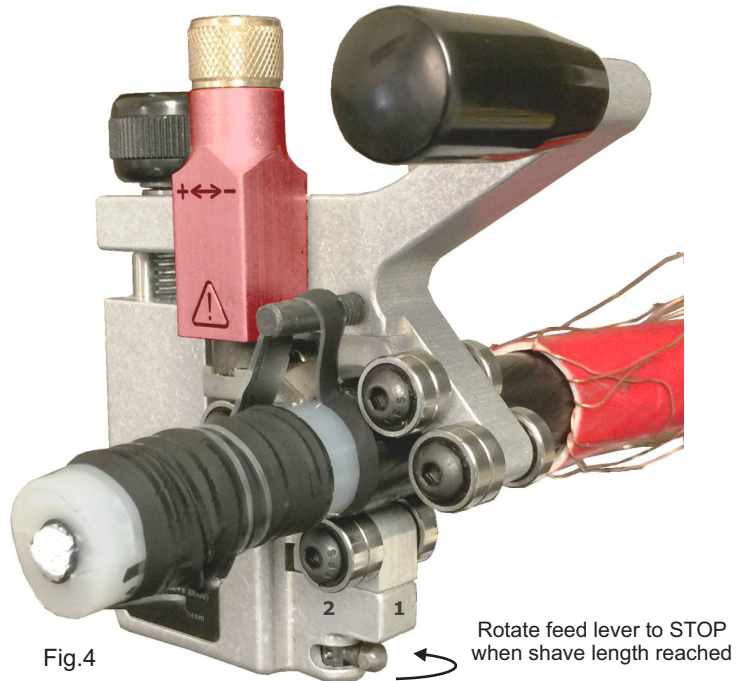

Fig.4
8. Another option is to guide the strip around the shaved insulation using the winding pin. (Fig.4)